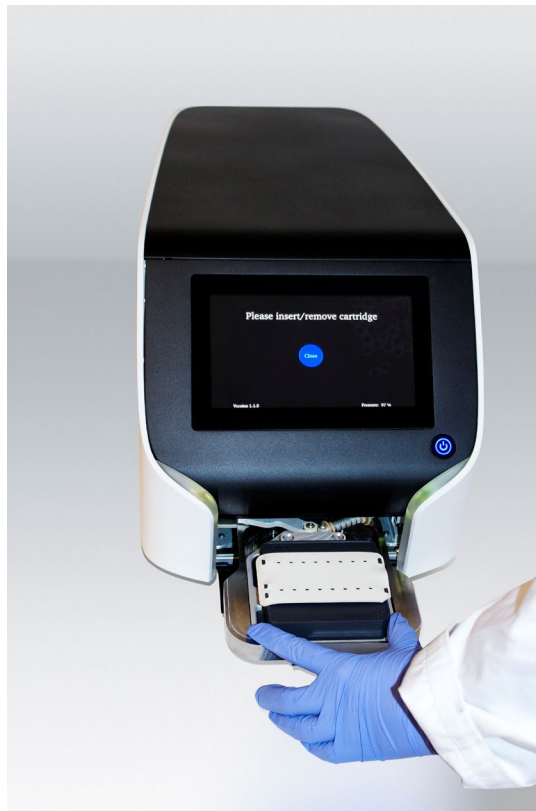

Fig. 5.8. Photo of Xdrop™ instrument with a correctly inserted dMDA cartridge.
3. Place the loaded cartridge with the holder in the Xdrop™ instrument drawer. Make sure that the cartridge is correctly positioned into the drawer by aligning the rounded corner on the holder to the rounded corner on the instrument drawer (Fig. 5.8). Incorrect insertion of the cartridge may cause damage to the instrument. Once the cartridge is correctly inserted, press “close” to retract the drawer into the instrument.